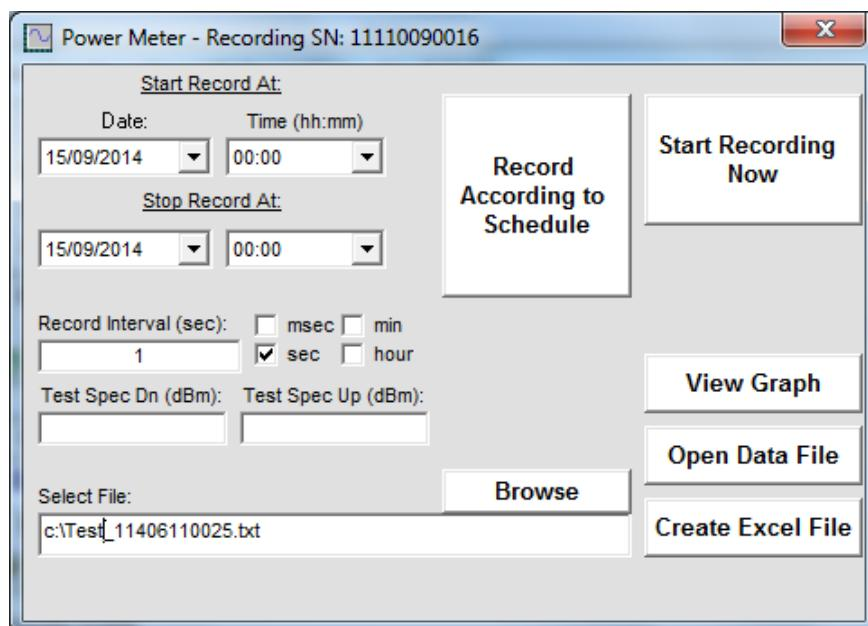

Figure 3.7: Data Record Window
3.7.1 Left side of Screen (Fig. 3.7)
3.7.2 Right side of Screen (Fig. 3.7)